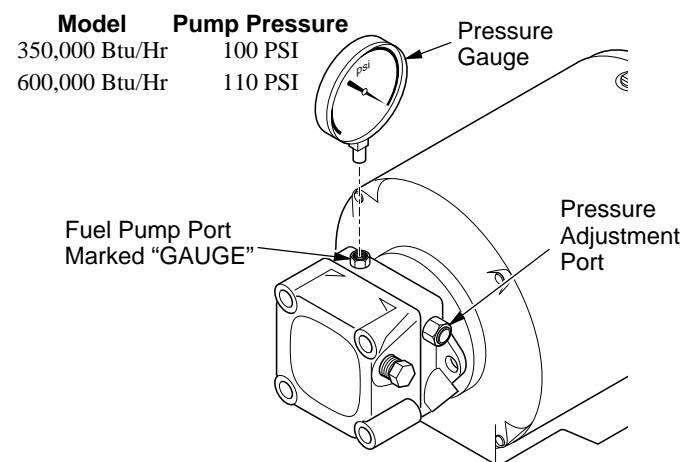

Figure 12 - Adjusting Pump Pressure
- Install accessory pressure gauge (part number 130-24132) to fuel pump port marked "GAUGE" (see Figure 12). Do not use bleeder valve port to check the pressure. The bleeder valve port contains pressure higher than operating pressure. Setting pump pressure with gauge in the bleeder valve port results in wrong operating pressure.
- Adjust pressure. Use small flat blade screwdriver to turn slotted screw at fuel pump port at top right side of pump. Turn screw clockwise to increase pressure. Turn screw counterclockwise to decrease pressure. See specifications in Figure 12 for correct pressure for each model.